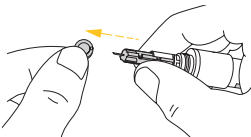

Figure 23
**STEP 3:** Remove the protective cap from the lancet by twisting it and then save it for later use. See Figure 23.